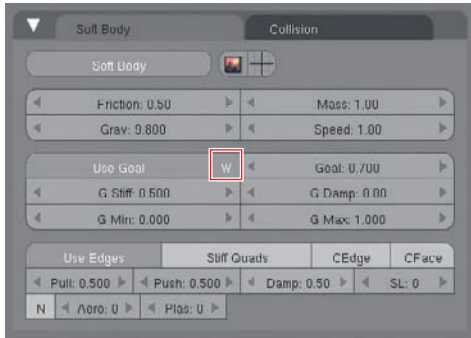

Figure 3.40 Soft body parameters
10. Now you are ready to activate a soft body simulation on the Curve object. Do this in the same way that you did in the previous example: by clicking the Soft Body button on the Soft Body tab in the Physics Buttons area. Use the settings shown in Figure 3.40. Note the button highlighted in the figure. This option takes the place of soft-body goal vertex groups in the case of curves and lattices, and sets the goal weights based on the control point weights you set in step 8. This ensures that the topmost control point will stay fixed to its position and follow the movement of the parent object, the empty.